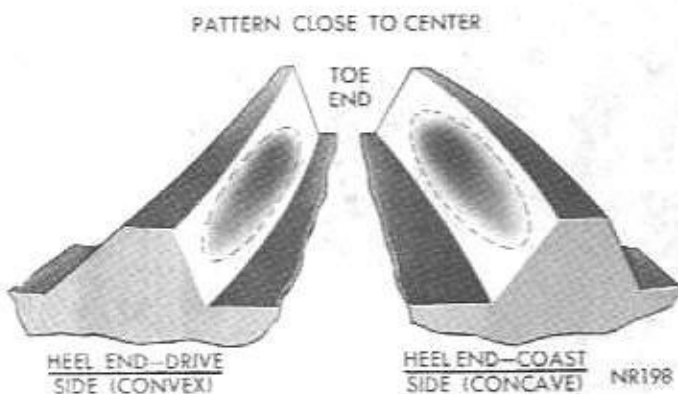

Fig. 27—Desired Tooth Contact Under Light Load
(2) Observe the contact pattern on the drive gear teeth and compare with those in Figs. 27, 28 and 30 to determine if pattern is properly located. With pinion depth of mesh and gear backlash set properly, your contact pattern should resemble that in Fig. 27. Notice that the correct contact pattern is well centered on both drive and coast sides of the teeth. When tooth contact patterns are obtained by hand, they are apt to be rather small. Under the actual operating load, however, the contact area increases.